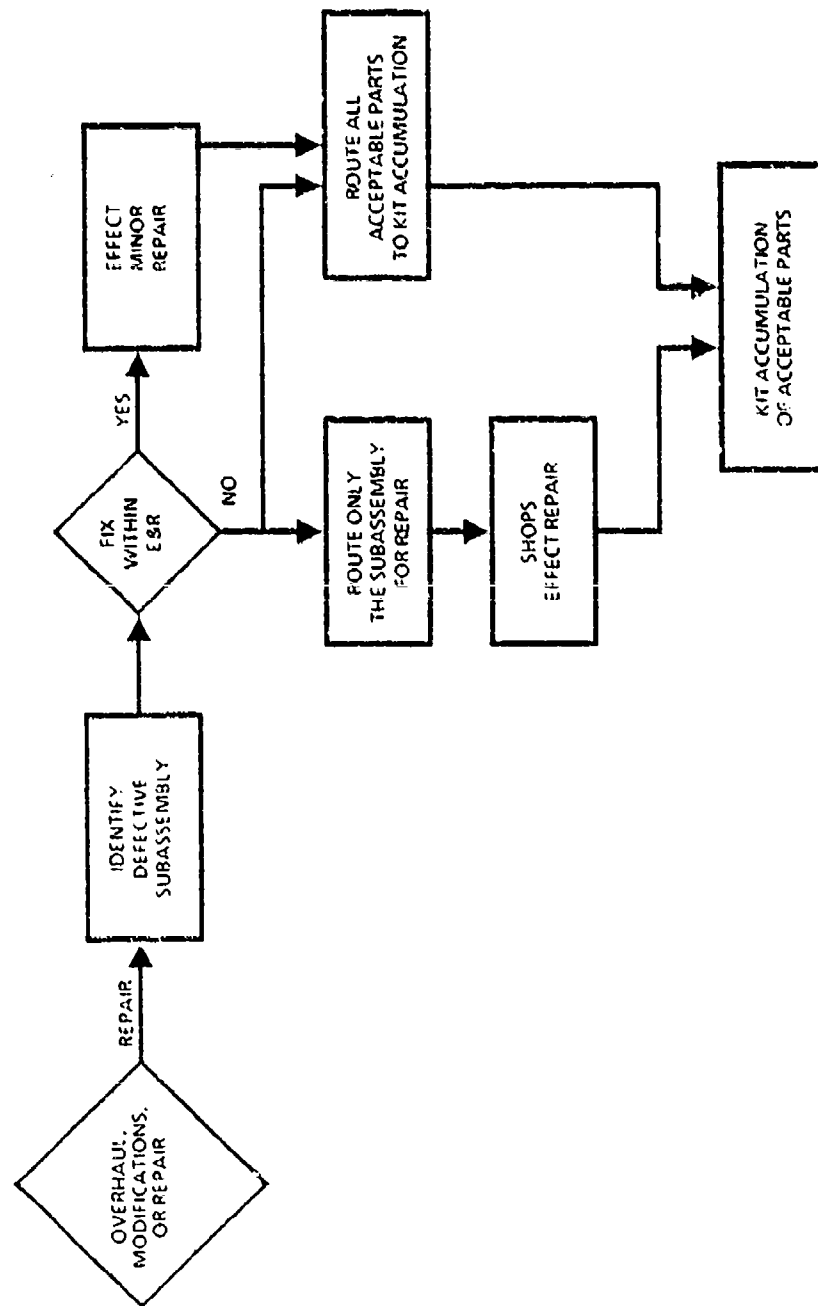

Figure 4. Limited disassembly and minor repair process.
(3) The same process can be seen as both simple and complex, depending on how detailed a description is given. The limited disassembly and minor repair process, which is represented as a simple "one box" process in Figure 3, can be depicted as a more complex process. Figure 4 shows the same process in greater detail.
(4) Simple or complex, one type of process is no more or less important than the other. A complex process can be made up of many simpler processes that are interrelated. They may be occurring at the same time or following some special sequence. Regardless, quality builds on quality. The overall quality of a given output is dependent on the quality of all of the processes, simple and complex.